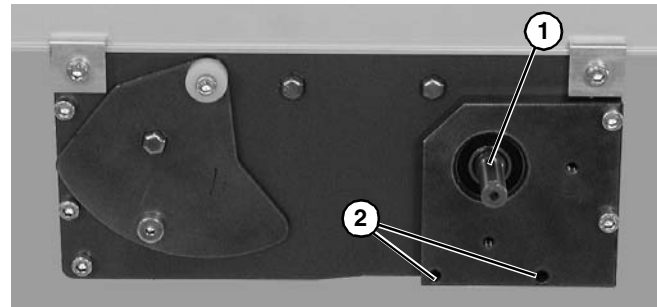

Figure 5
2. Locate drive output shaft (Figure 5, item 1) and remove two (2) screws (Figure 5, item 2).